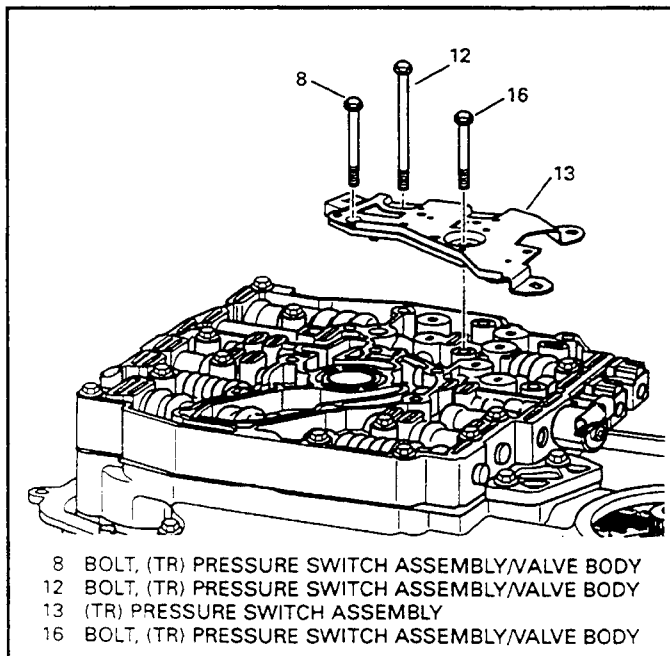

Figure 57
39. Remove the six bolts from the pressure switch assembly as shown in Figure 57.
40. Remove the pressure switch assembly from the valve body assembly (See Figure 57).